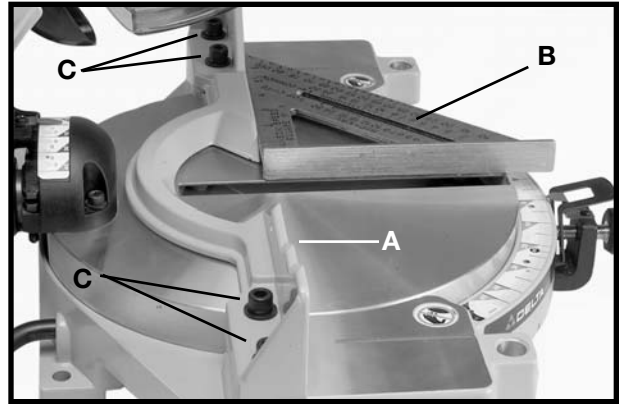

Fig. 27
The fence (A) Fig. 27 should be adjusted so that it is 90 degrees to the blade. To adjust:
3. Use a square (B) Fig. 27 with one end against the fence (A) and the other end against the slot in the table.
4. Loosen the four screws (C) Fig. 27, adjust the fence 90 degrees to the table opening, and tighten the four screws (C).